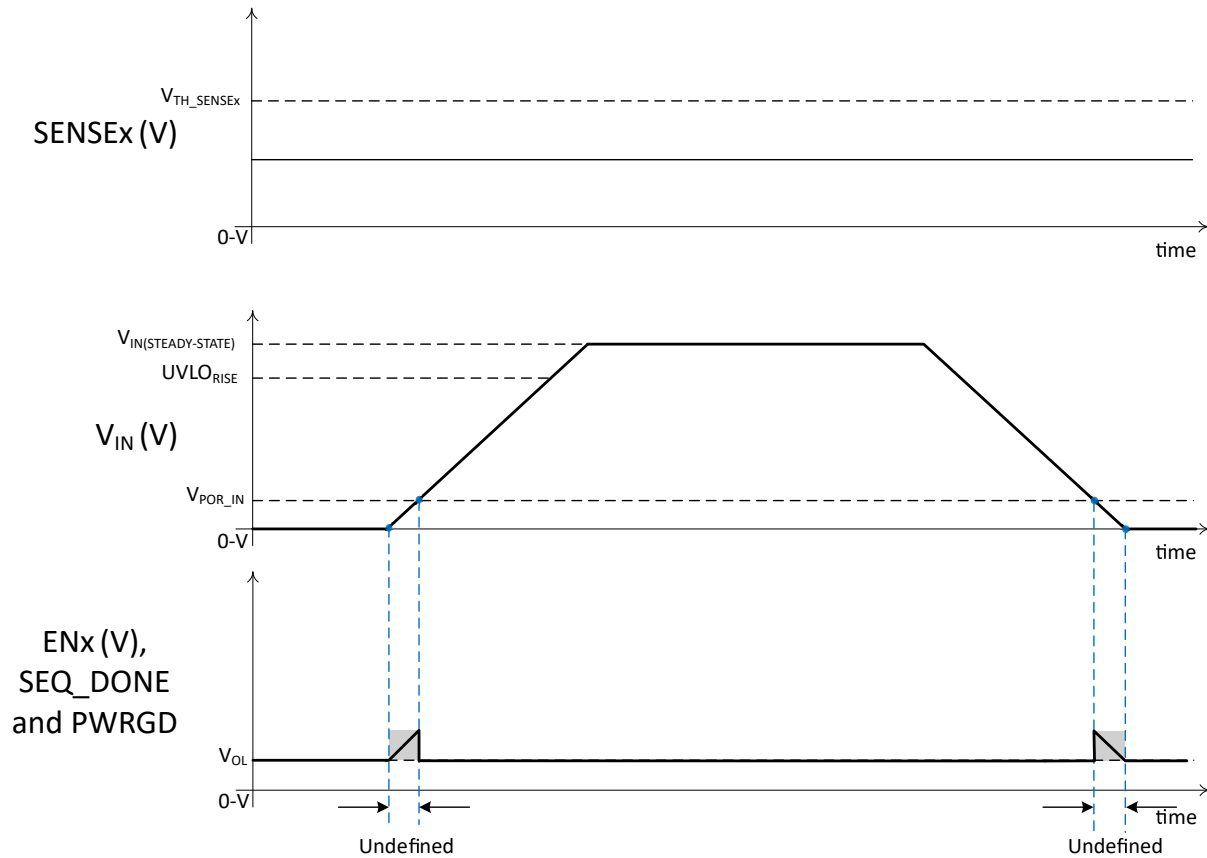

图 8-1. Outputs in a Valid Low State After $V_{IN} > V_{IN-MIN}$
图 8-1 shows the EN_x outputs relationship to a rising input voltage (VIN). As can be observed, the EN_x are undefined when VIN is lower than V_{POR_IN} (typically 1.41V). During this time the outputs can be any value from 0V to VIN. In this case, the input voltages to all undervoltage (UV) input comparators (SENSE_x) are below the V_{TH_SENSE_x} (599mV). For this reason (in conjunction with waiting for a rising edge on UP), the EN_x, SEQ_DONE and PWRGD stays low after VIN rises above UVLO_{RISE} (typically 2.79V).